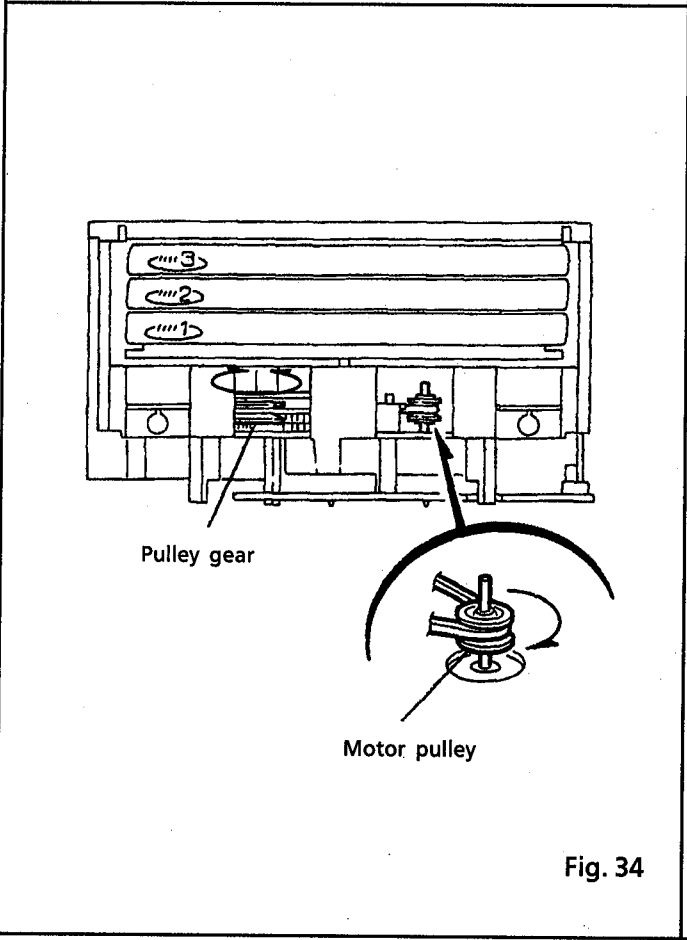
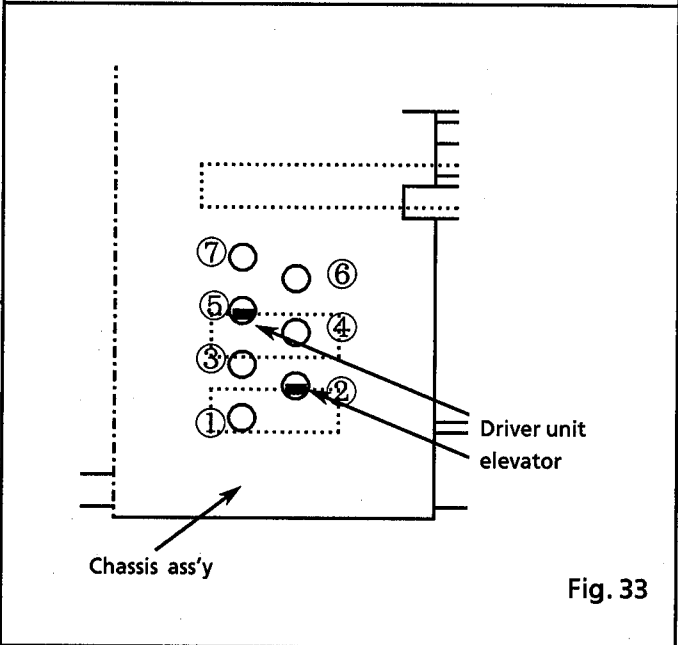

Fig. 34
Fig. 33
- [NOTE] Set the elevator in correct position (Fig. 33) by rotating the pulley gear with finger if it is not positioned correctly (Fig. 34.).
12. Rotate the motor pulley clockwise with finger until the lifter unit's stopper is lowered from ⑧hole located on the CD tray ass'y. (See Fig. 34.)